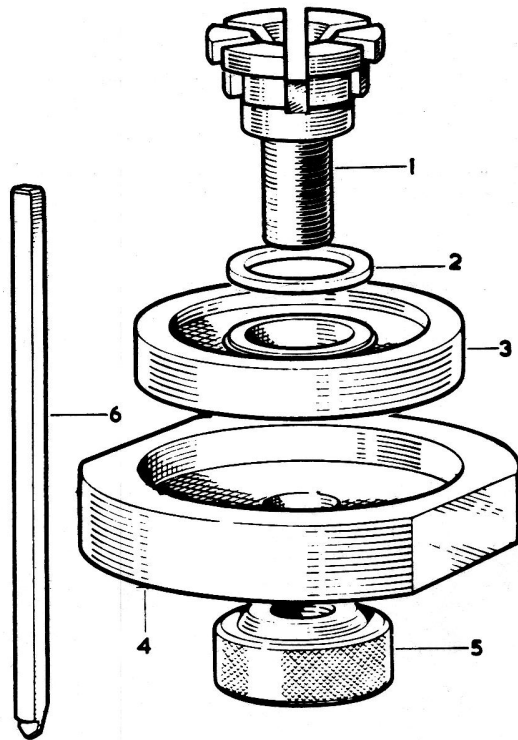

FIG.5.20. SPECIAL TOOL SSC 805
- 14 The centrally mounted release plate is held in position by a centre sleeve which passes through the diaphragm spring and the Belleville washer into the release plate. To free the plate, collapse the centre sleeve with a hammer and chisel as shown in Fig.5.11. Support the release plate in the locating boss of the special tool, shown at Fig.5.20, which should be held firmly in a vice.
34 The pressure plate must now be fitted and for this a special tool is required. The tool number is SSC805 and it can be obtained from Automotive Products Ltd, Service and Spares Division, Banbury, England. The tool is shown in Fig.5.20 for information.